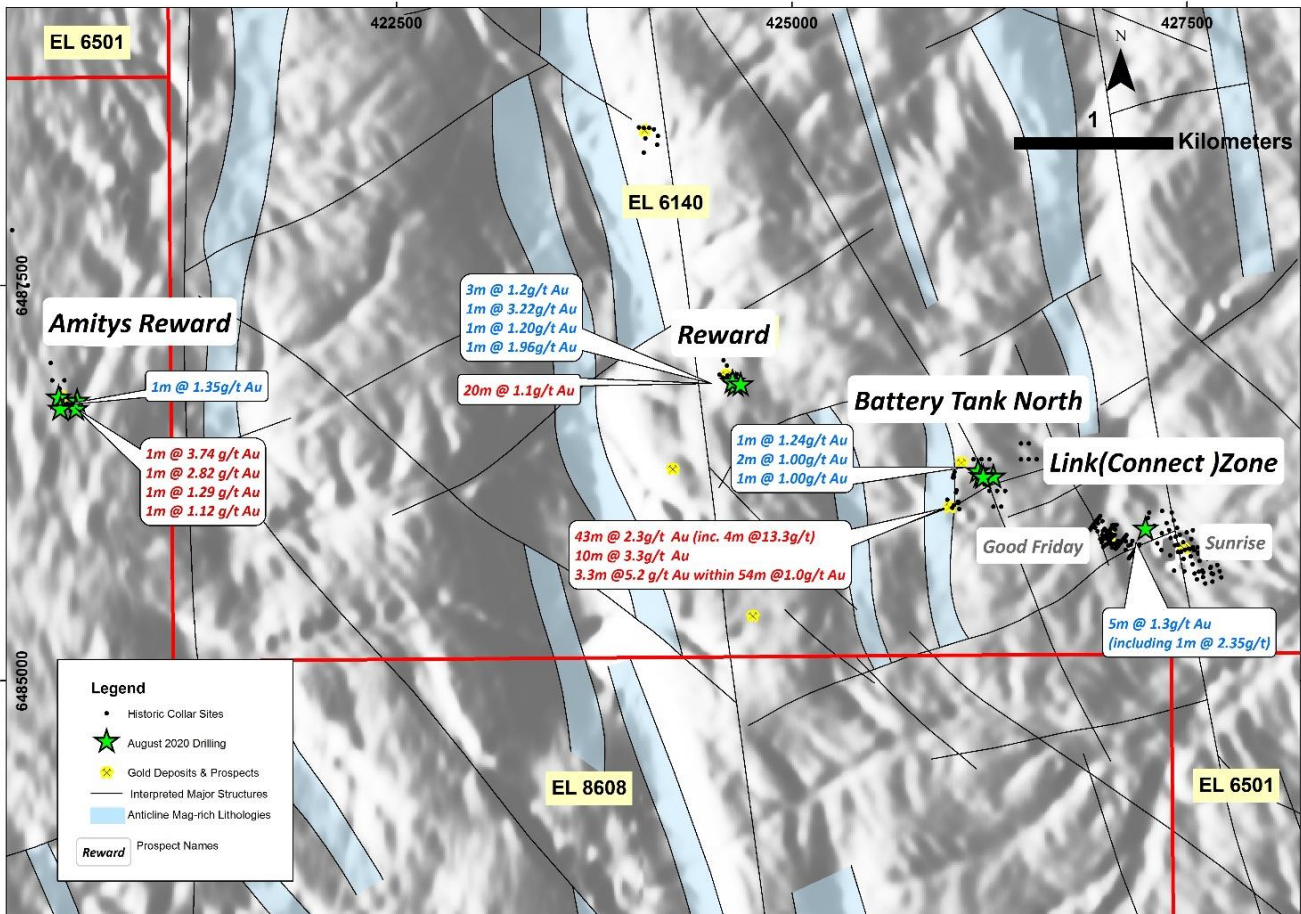

Figure 1: Initial Phase 1 assays (Blue) with previous assays from 2017 (Red) over TMI aeromagnetics.
- Results cover initial holes at Amity's, Reward, Battery Tank North and the Link Zone between the Sunrise and Good Friday prospects (Figure 1);